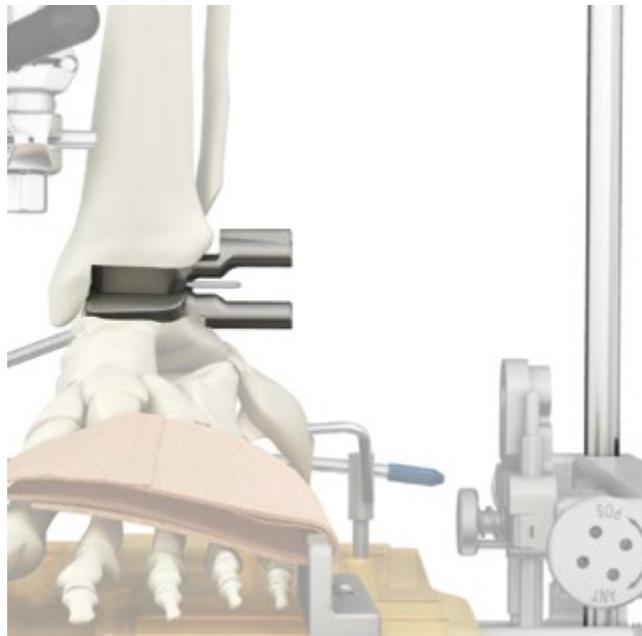

Fig. 69
- Confirm that the sleeves of the Rail Hole Drill Guides are perpendicular to the Frame Rods to ensure proper axial orientation to the bone resection (Fig. 69).